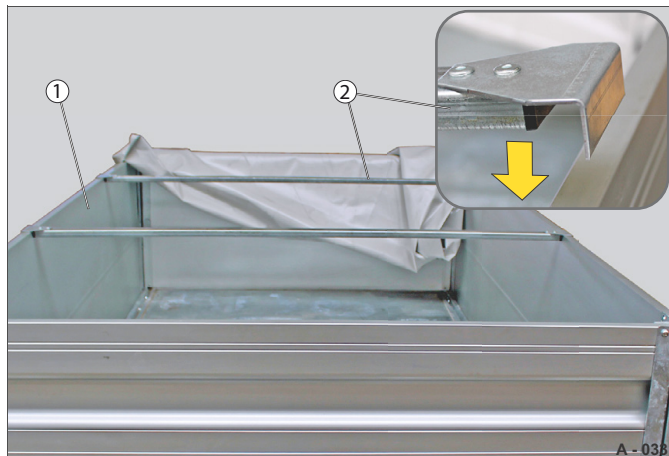

Fig. 58 Lateral bracing positioned
- Slot the lateral bracing (Fig. 58 /2) onto the side drop sides (Fig. 58 /1).